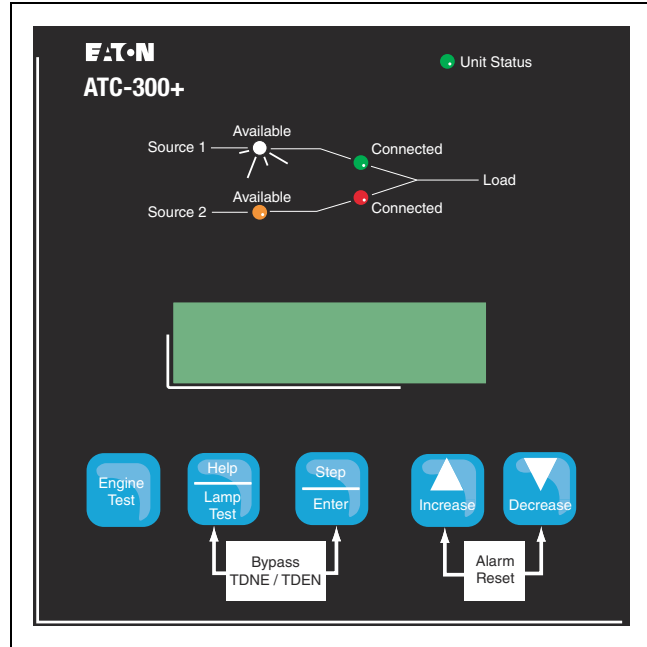

Figure 24. ATC-300 + Logic.
Step 9: Initiate a Load Test from the front panel of the ATC-300+ (Figure 24). This may be done by setting the engine test mode setpoint to: